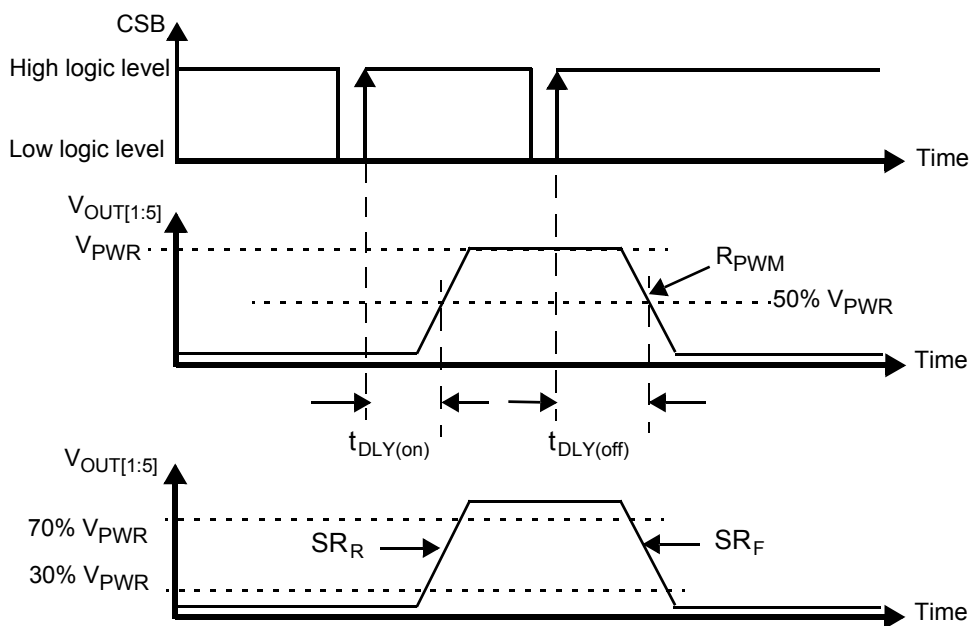

Figure 6. Output Slew Rate and Time Delays
39. The PWM ratio is measured at  $V_{OUT} = 50\%$  of  $V_{BAT}$  in nominal range of PWM frequency (from 60 Hz to 400 Hz). It is possible to put the device fully on (PWM duty cycle = 100%) and fully off (PWM duty cycle = 0%). Between 4% - 96%, OCHI1,2, OCLO and open load are available in ON state. See Figure 6. Output Slew Rate and Time Delays.
Figure 6 describes the PWM resolution.